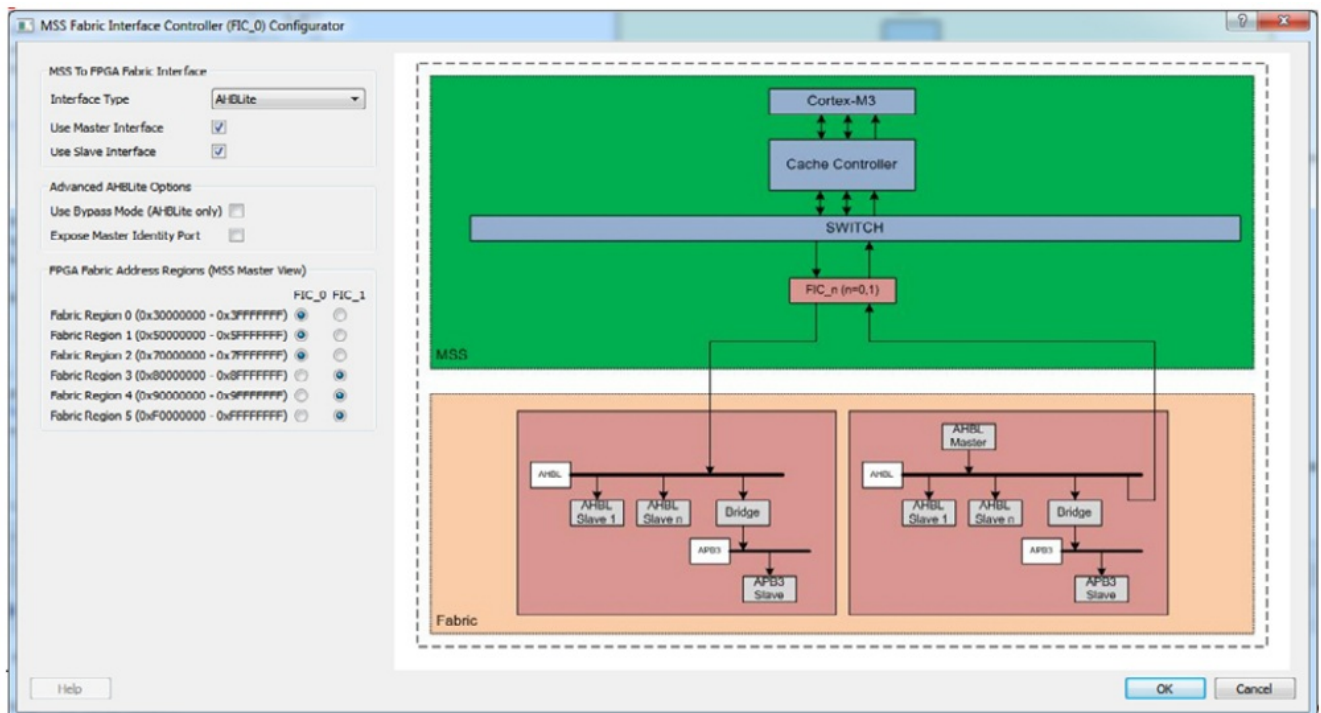

Figure 1 • FIC Configurator Overview
- As shown in Figure 1, the FIC configurator (applies to both FIC_0 and FIC_1) is organized as follows. In the left panel, you can configure: